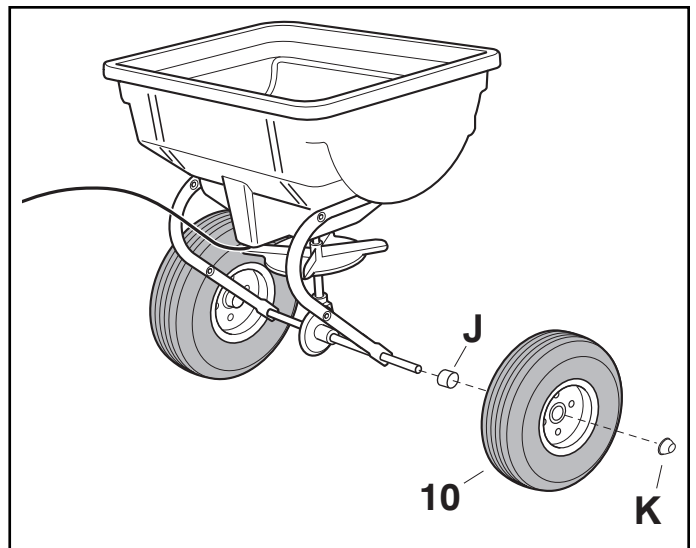

FIGURE 4
- Slide a spacer (J) over the left side of the axle. See figure 4.
- Attach the wheel (10) to the left side of the axle. Secure the wheel in place with a hub cap (K). See figure 4.